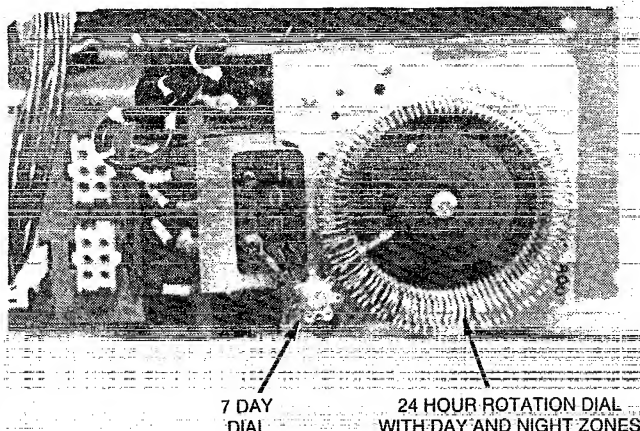

FIGURE 3-3. ELECTROMAGNETIC EXERCISER CLOCK
This clock initiates generator set starting and exercising at preset intervals. The large dial divides the 24-hour day into 15-minute intervals. A smaller spoked dial divides the week into one-day segments. See Figure 3-3.
1. On the 24-hour large dial, tilt tabs inward opposite the time of day generator set is to run. Each tab is a 15-minute increment, so for 30-minutes run time, tilt two adjacent tabs. See Figure 3-3.